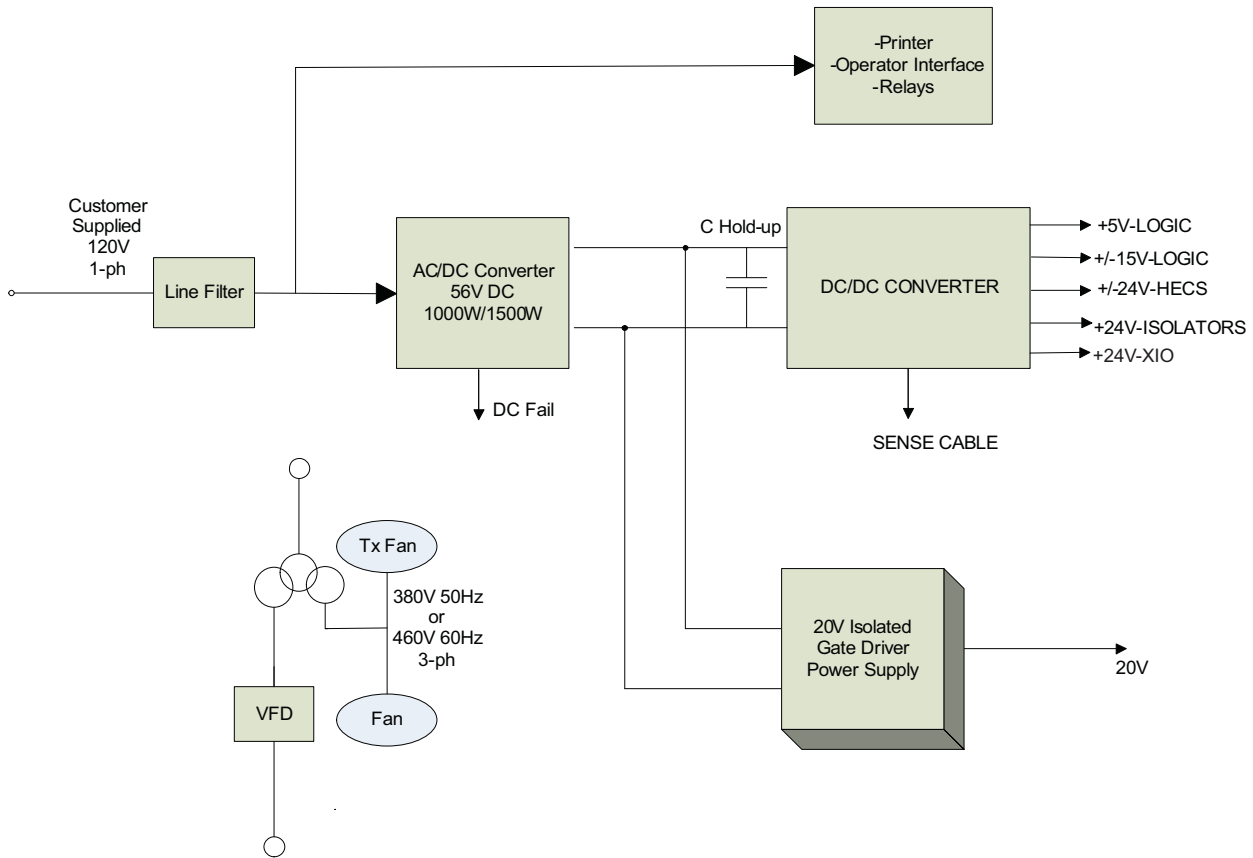

Figure 80 - AFE Remote Transformer / Starter
- Remote Transformer and Starter (refer to Figure 80 on page 99)
Figure 80 illustrates the control power distribution for AFE drives with remote transformer/starter or integrated line reactor with remote starter.